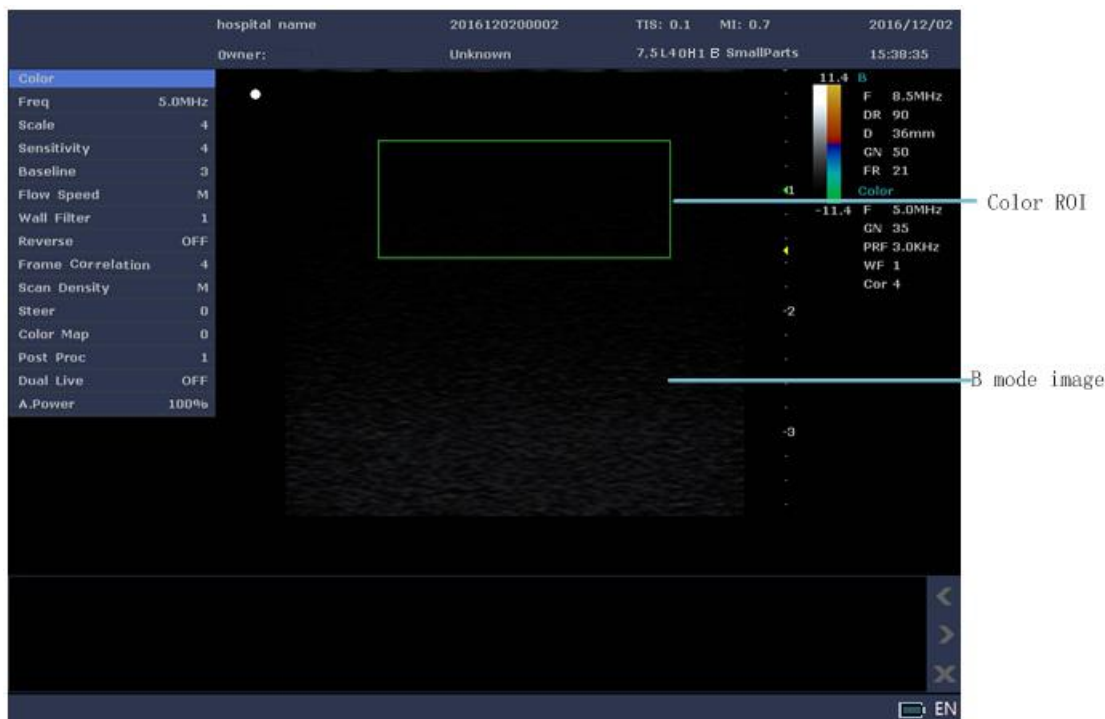

Figure 8-2 Color Doppler Mode Image
2. Press the **Color** key on the control panel to enter the color mode, as shown in Figure 8-2.